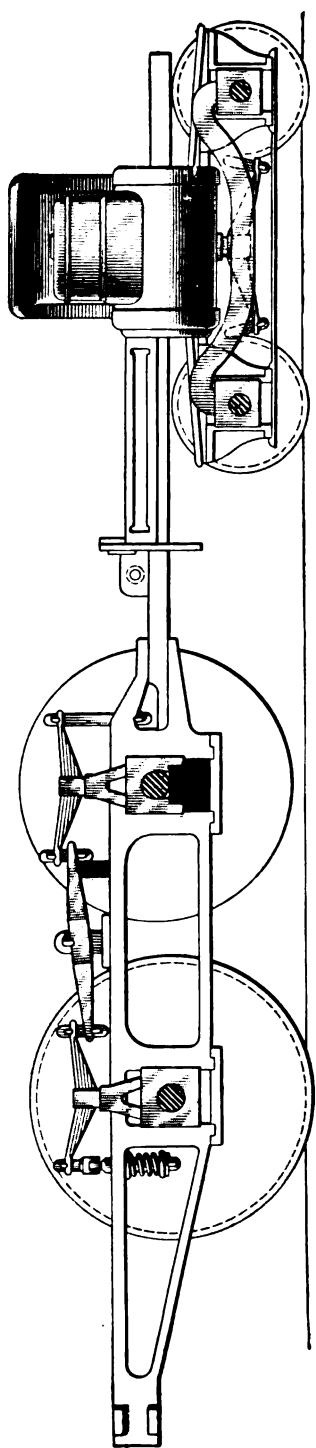

FIG. 21.
**54.** Another method of blocking an eight-wheeled engine having overhung driving springs, in the event of a broken front tire, is shown in Fig. 21. In this method, the wheel is run up on a wedge, and blocks placed in the oil cellar and between the bottom of the box and the pedestal brace, as in the previous case. To relieve the box of its weight, however, a block is placed between the end of the equalizer nearest the injured wheel and the top of the frame, as shown. By this means, the front driving spring is cut out and severe strains are placed on the equalizer, equalizer post, and post bolts, which may result in a broken equalizer or equalizer post. This method, however, can be used to advantage in cases where the front driving spring has been injured in such a way as to prevent its carrying its load safely. If the spring or hangers are not injured, the first method is preferable to this. But the driver brake must be cut out in either case, and if the side rods are injured, they must, of course, be removed.